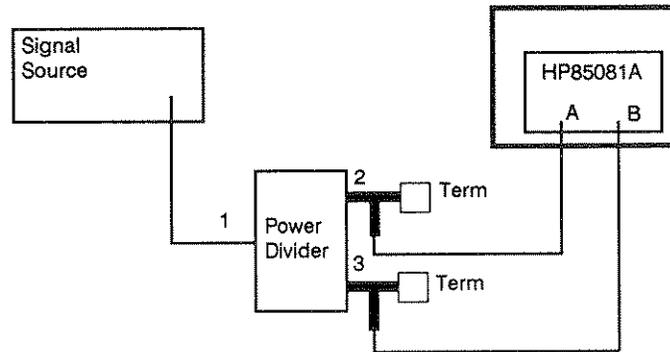

Figure 5-11. LF Phase Adjust Setup
1. Configure the equipment as shown in Figure 5-11.